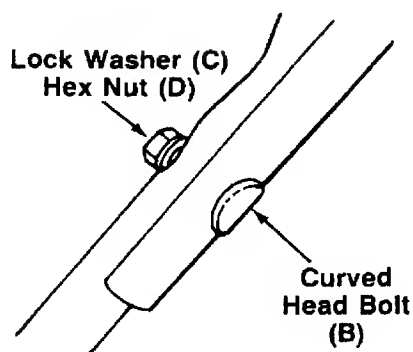

FIGURE 3.
5. Place the upper handle in position over the lower handle. The control housing must be on the left hand side of the handle. Secure the handles using the curved head bolt (B), lock washer (C) and hex nut (D) as shown in figure 3.